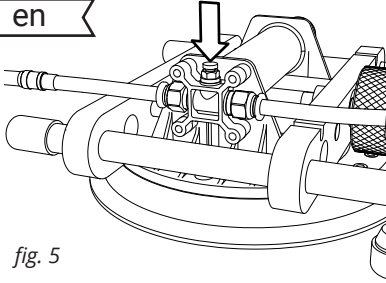

fig. 5
20. Press the vacuum release tab for each cup to break the seal, then lift each unit off the material. (see fig. 5)